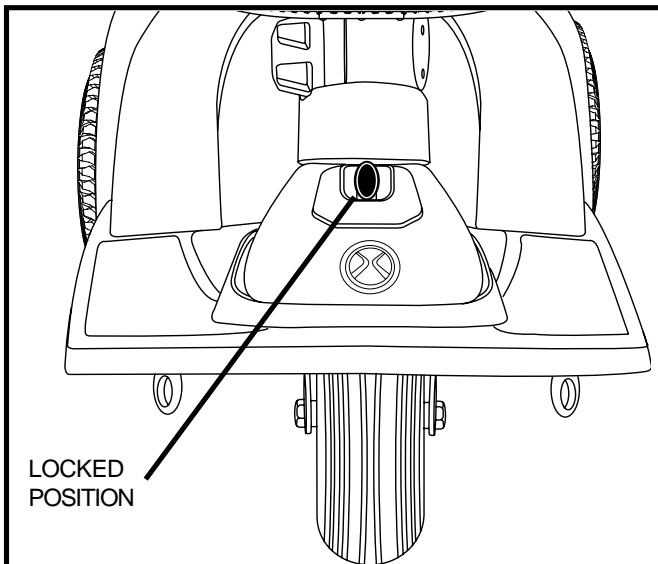

Figure 19. Tiller Lock knob (Locked)
1. Lock the tiller in the straight ahead position by pushing the tiller lock knob in and turning it clockwise 90°. See figure 19. The front wheel must face forward in order to lock the tiller.